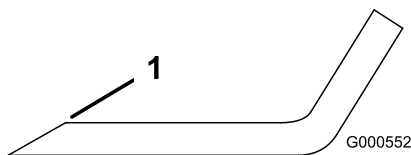

Figure 57
1. Use a file to sharpen the cutting edge at both ends of the blade (Figure 57).
Note: If the blade is not balanced, file some metal off the end of the sail area only (Figure 57).